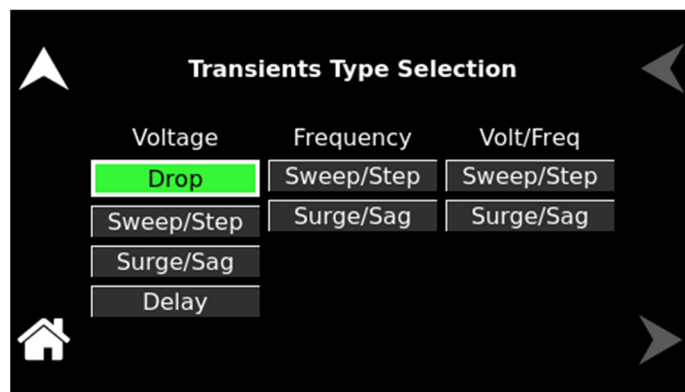
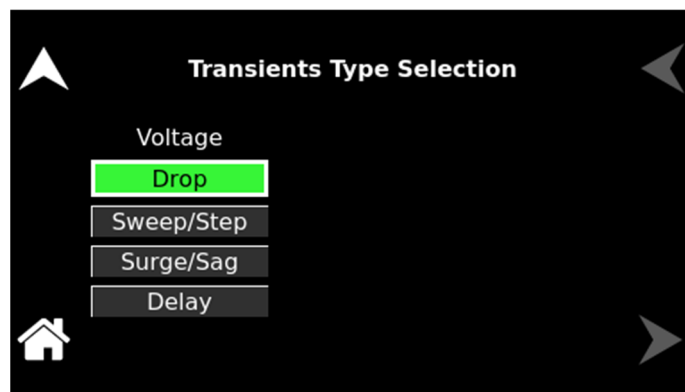
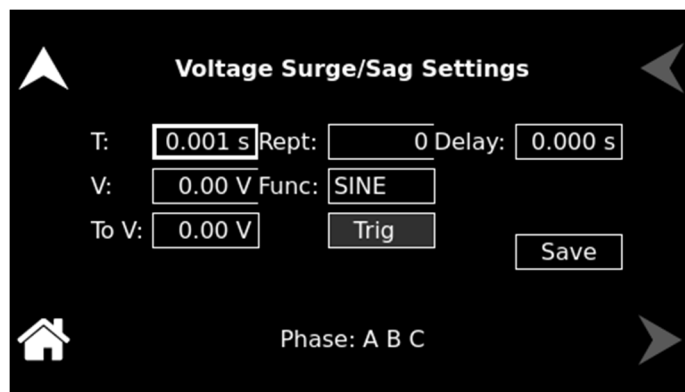

Figure 8-8: AC Mode Transients Type Selection for Source and Grid-Simulator Operating Modes
Figure 8-9: DC Mode Transients Type Selection for Source and Grid-Simulator Operating Modes
Figure 8-10: List Menu, Voltage Surge/Sag Settings sub-menu
4. Tap the ADD field to enter the ADD sub-menu; refer to Figure 8-8 and Figure 8-9.
5. Tap the VOLTAGE SURGE/SAG selection button, refer to Figure 8-8 and Figure 8-10. Enter the following parameter values: